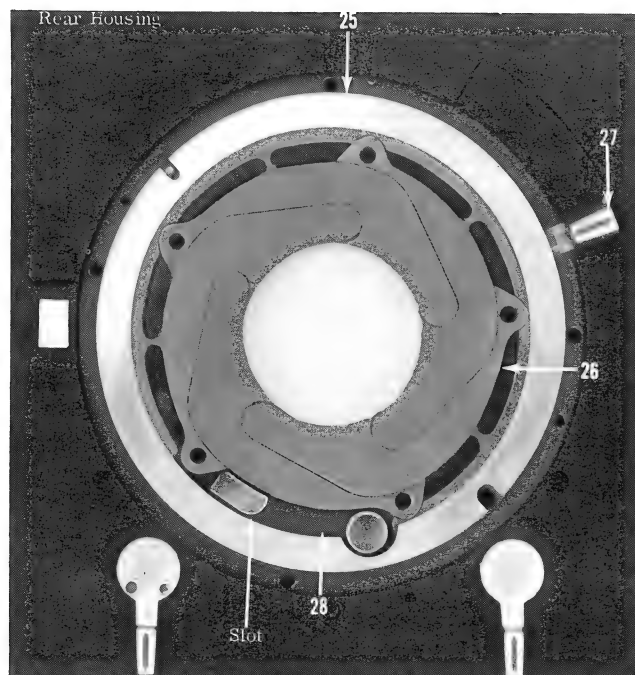
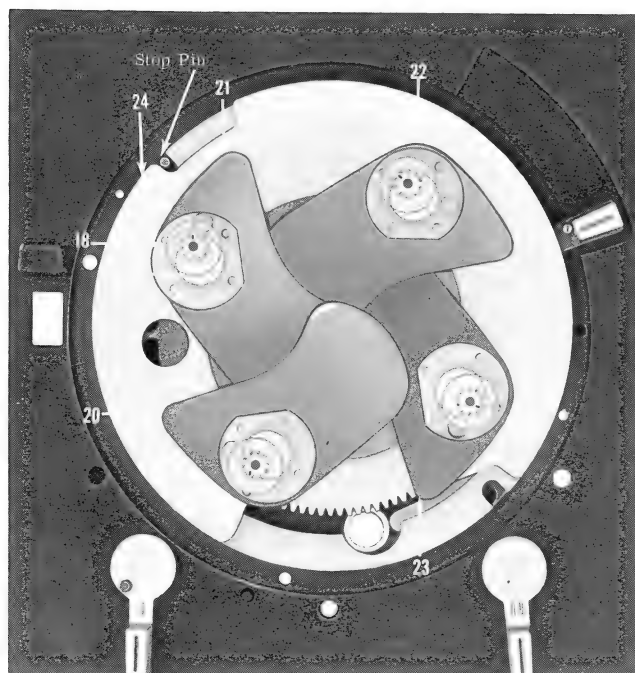

Figure 6.
Figure 7.
a. Apply a thin coat of lubricant (39484P8) to inside diameter of diaphragm pivot plate (28, Figure 6). Locate diaphragm pivot plate in rear housing with five posts on plate facing upward and pivot on rear side located in slot in rear housing. Rotate pivot plate clockwise until pivot is against left side of slot.
b. Locate diaphragm plate assembly (27) in rear housing with lever portion located all the way to the right (open position) in recess.
c. Assemble five diaphragm leaf assemblies (26) over five posts on diaphragm pivot plate, interleaving diaphragm leaves as shown.
d. Locate diaphragm pivot plate spacer (25) as shown.
e. Assemble shutter leaf plate assembly (24, Figure 7) with four posts facing upward and stop pin on rear housing located against left side of upper opening in plate assembly.